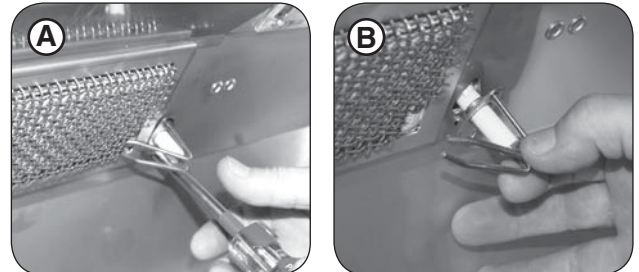

Fig. 33-2 Remove electrode
1. Remove the backburner electrode mounting screw (1/4" hex) (see Fig. 33-2, A) and loosen the electrode. Carefully pull the electrode assembly slightly from the grill wall to give enough clearance for the backburner to be removed (see Fig. 33-2, B).